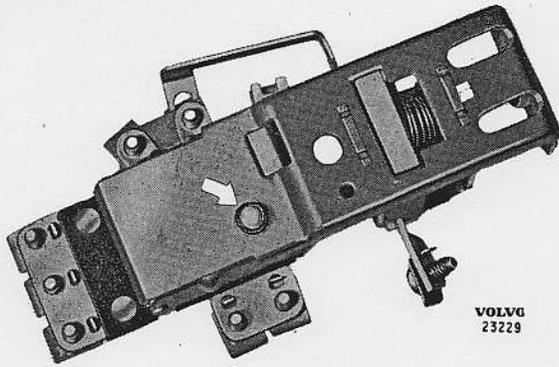

Fig. 31. Lighting switch with pull rod catch.
2. The pull rod is removed by setting the switch to the full headlight position, after which the catch on the switch is pressed in, see the arrow on Fig. 31, and the pull rod pulled out.